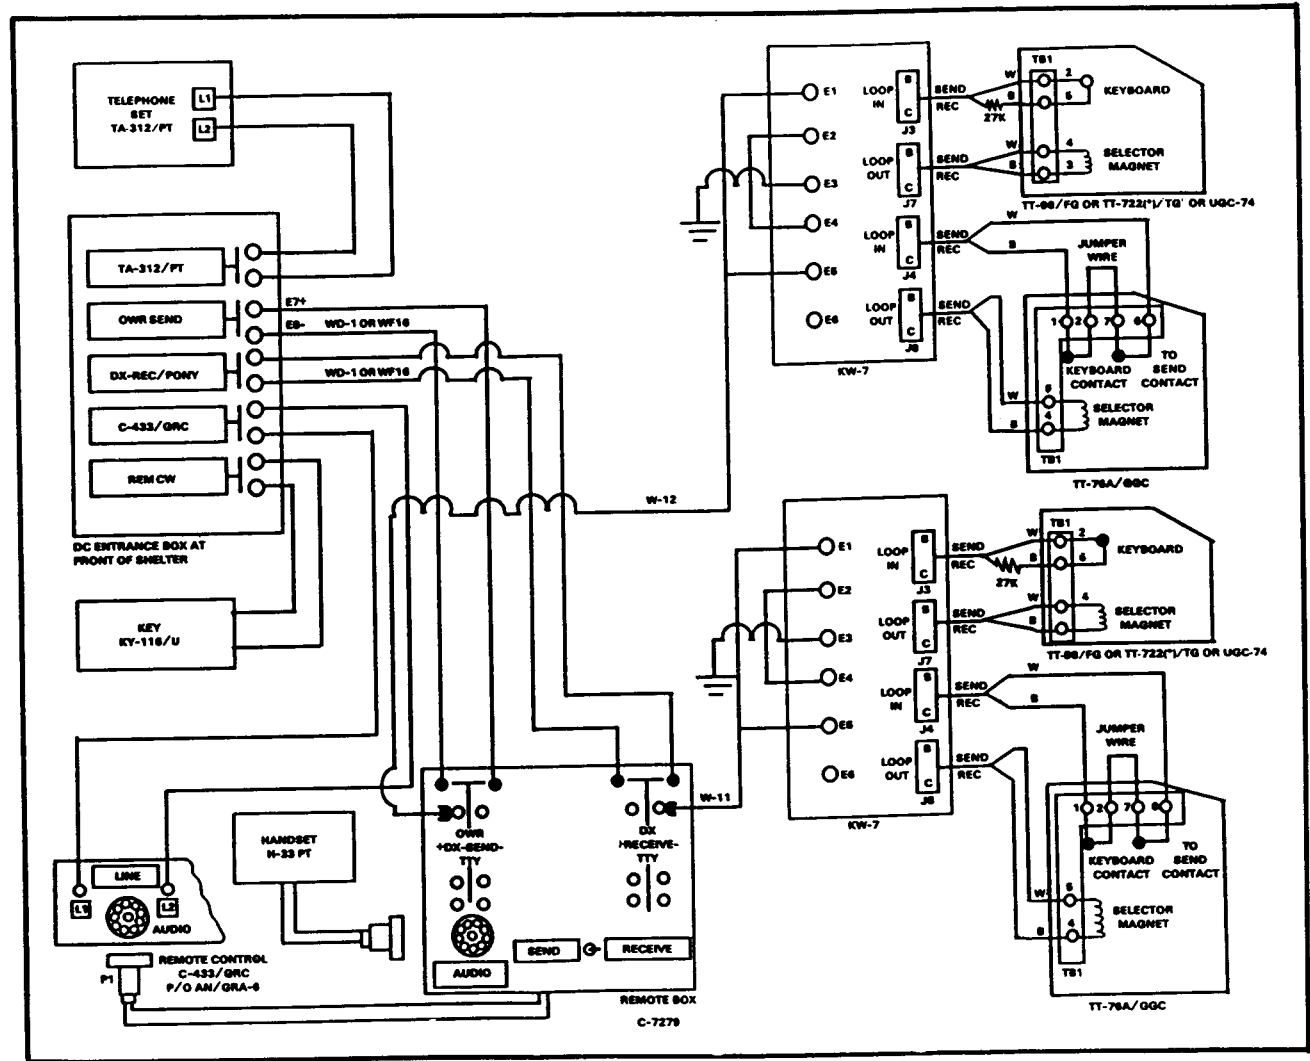

Figure 1-6. Wiring diagram for secure remote operation of Radio Teletypewriter Set AN/GRC-122 in full duplex.
**If remote box or remote TTY is defective, refer to a higher level of maintenance. (See Figures 1-6, 1-7, 1-8, 1-9, 1-10 and 1-11.)**